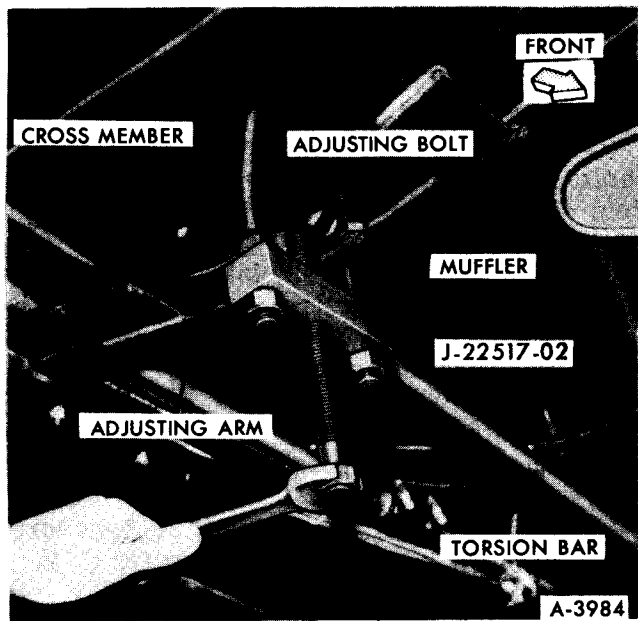

Figure 24—Removing Torsion Bar
3. Turn center screw until seated in dimple of torsion bar adjusting arm. See figure 24.
11. Turn center screw until adjusting arm is in a position to allow installation of adjusting nut. See figure 24.
**NOTE:** Tool J-22517-02 (shown in figure 24) must be used the reset ride height. This tool will raise or lower the torsion bar rear anchor arm so that the adjusting bolt is not loaded.